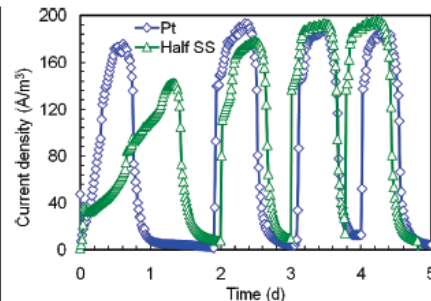

FIGURE 5. Current density versus time for both the platinized carbon cloth cathode (Pt) and the SS brush cathode cut in half (Half SS) at $E_{ap} = 0.6$ V.
Comparison to a Platinized Cathode. Because the brush bristle loadings did not have an appreciable impact on current production, it was believed that the main factor limiting power generation was electrode distance. Therefore, a fully loaded SS brush was trimmed in half and placed as close as possible above a similarly trimmed graphite brush anode (Reactor VB, $A_S = 810$ m²/m³) in order to create a configuration capable of generating current densities similar to Pt/C cathodes (6). During the first few cycles, the current density was greater in the MEC using the Pt/C cathode (Reactor FC) than in the MEC with the vertically aligned SS brush cathode (Figure 5). Within four cycles, however, Reactor VB was producing the highest current density of 194 ± 1 A/m², compared to 182 ± 2 A/m² for Reactor FC. For the final three batch cycles, both reactors generated a similar average current density, with
Energy Recoveries and Production Rates. The recoveries and production rates for the SS brush in Reactor VB were averaged over the last three cycles in Figure 5. Relative to only the electrical energy input, the energy recovery reached $\eta_E = 221 \pm 8\%$. When the substrate energy was also included, the overall energy recovery was $\eta_{E+S} = 78 \pm 5\%$. The cathodic hydrogen recovery was $r_{CAT} = 83 \pm 8\%$, and the average hydrogen production rate was $Q = 1.7 \pm 0.1$ m³-H₂/m²-d.